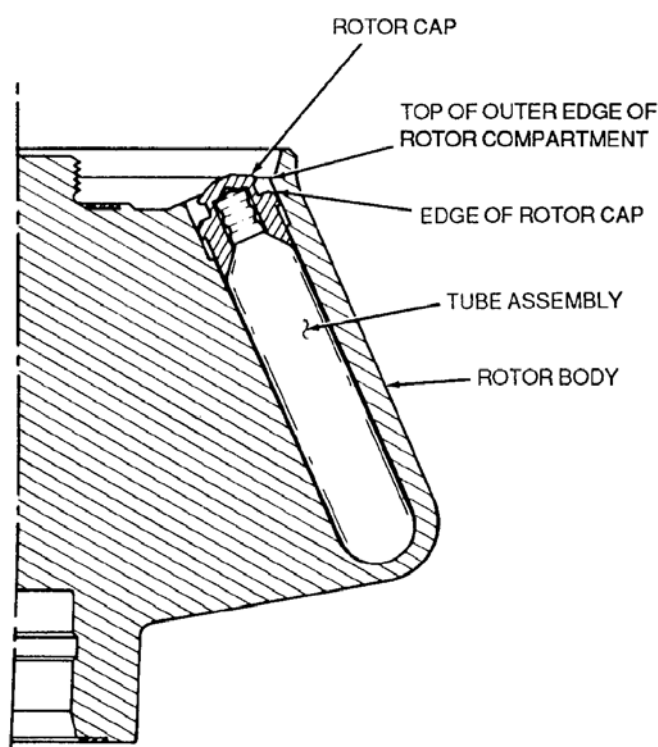

Figure 2-3. Properly Seated Rotor Cap
2. Place a rotor cap (Catalog No. 03996) into each rotor compartment that contains a filled tube. Push the rotor cap into the tube compartment until it is properly seated; when properly seated, the edge of the cap will be approximately flush with the top of the outer edge of the tube compartment (see Figure 2-3).